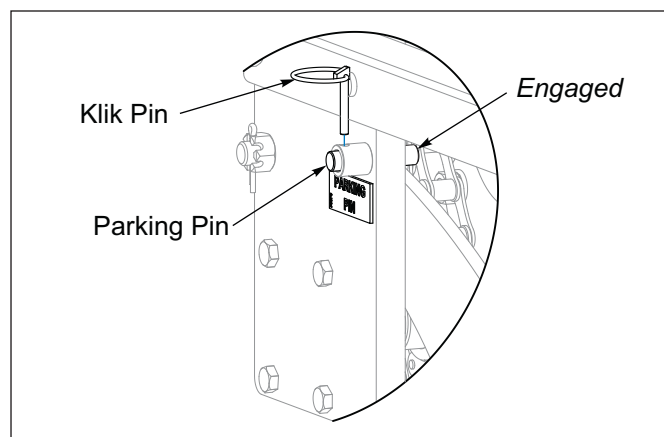

Figure 2-1: Parking Pin Engaged
4. Be sure Parking Pin is locking Rear Roller down and raise the Seeder. **See Figure 2-1.**